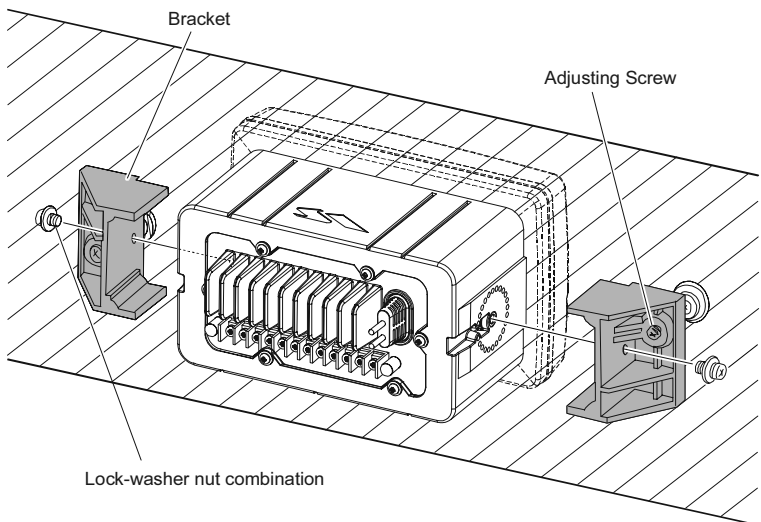

Figure 1. MMB-84 Flush Mount Installation
4. Fasten the brackets to the sides of the **VLH-3000** with the lock washer nut combination; so that the mounting screw base faces the mounting surface (see Figure 1).